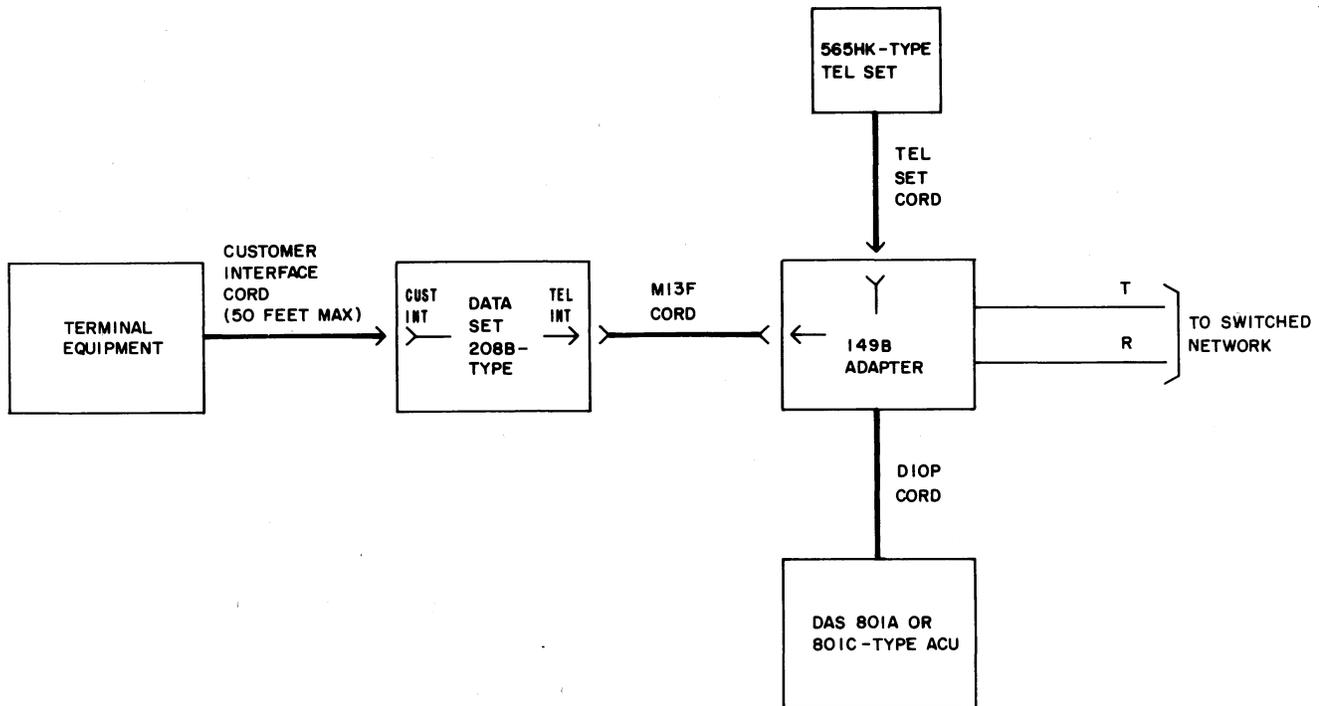
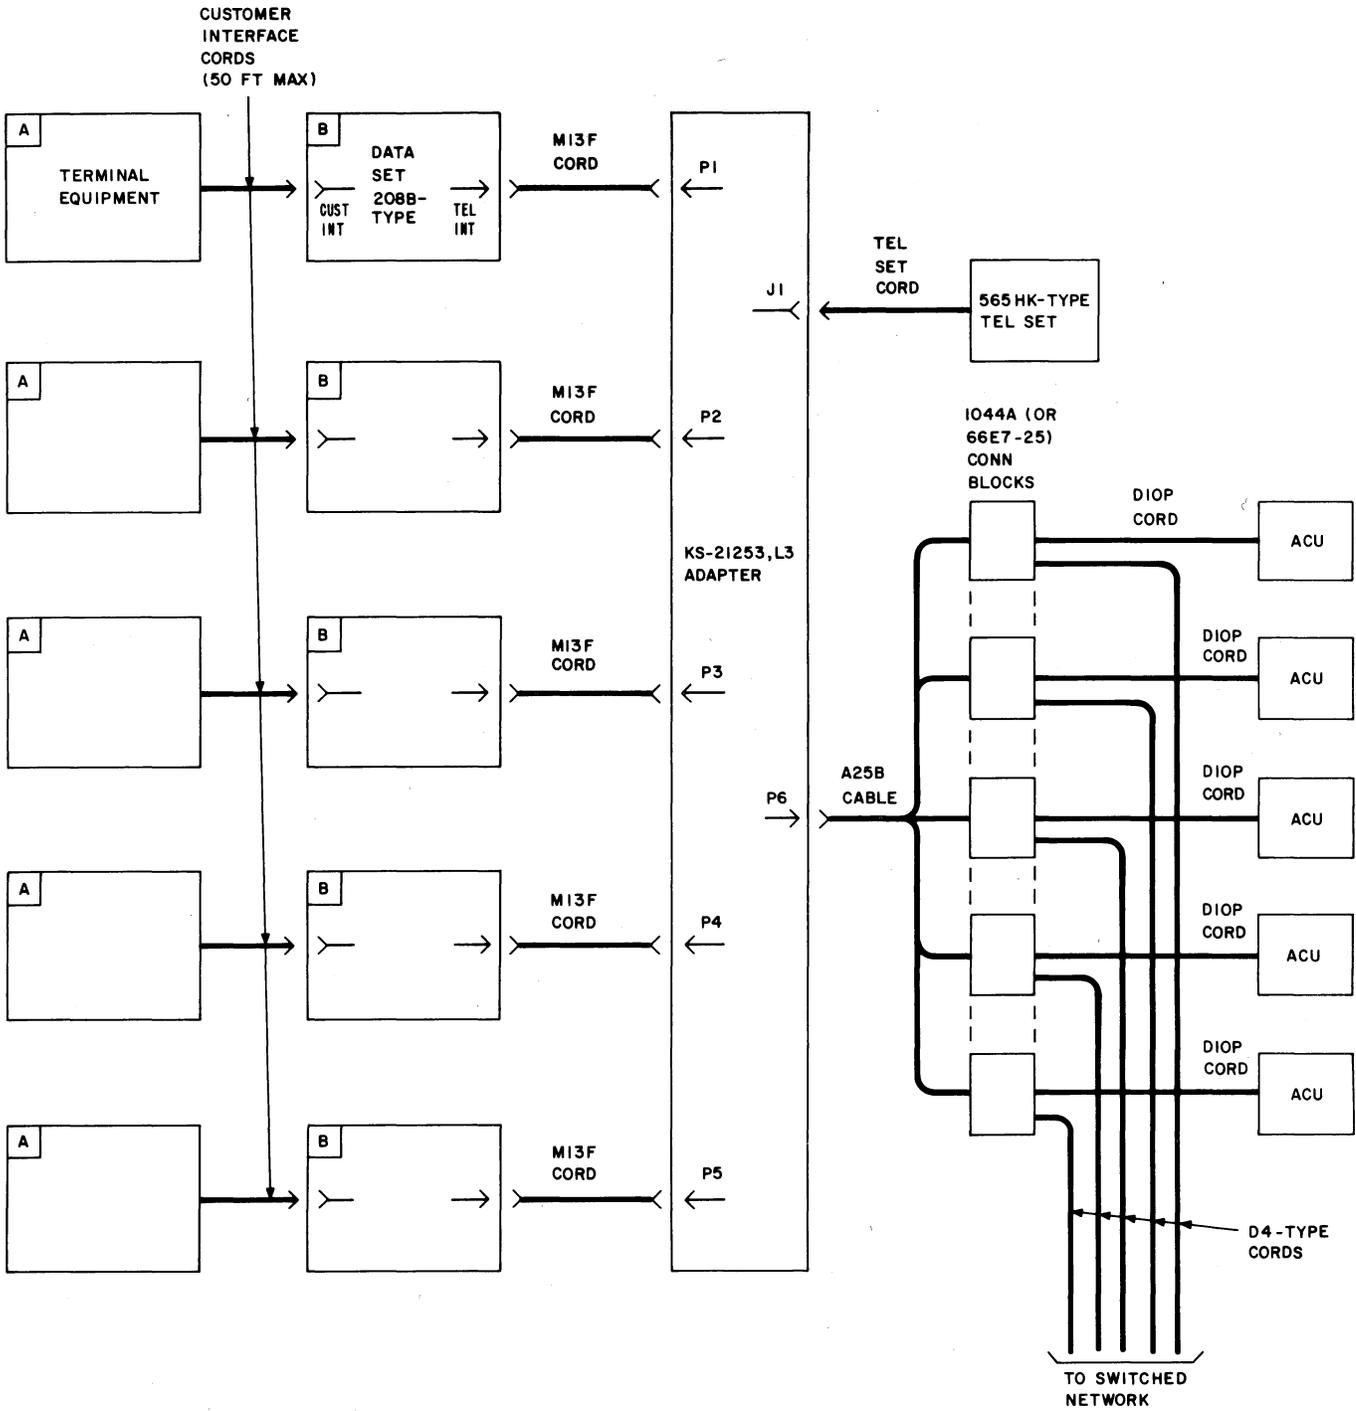

Fig. 16—Typical Single Data Set 208B-Type Arrangement With ACU—Block Diagram
Fig. 18—Typical Multiple Data Set 208B-Type Arrangement Using P6 of KS-21253-L3 Adapter for ACU Access—Block Diagram
**4.03** Whenever automatic call origination is desired, the DAS 801A- or 801C-type automatic calling unit (ACU) must be provided (Fig. 16, 18, and 19). The ACU must be ordered separately; however, the D10P cord required for the data set/ACU interface is supplied with the ACU. For simplicity's sake, the customer interface to the ACU is not shown on the block diagrams (Fig. 16, 18, and 19). For details of the terminal equipment/ACU interface, refer to the appropriate ACU BSP.
**4.05** A typical single DS 208B-type arrangement with an ACU is shown in Fig. 16. The DAS 801A- or 801C-type ACUs and 149B adapters (Fig. 8) must be ordered separately. However, in this case, the distance between the data set and the telephone set is limited by the length of the telephone set cord, M13F cord, and D10P cord. This is due to the 50-foot maximum length requirement of the data set and ACU customer interface cords.
**4.08** Two typical multiple DS 208B-type arrangements with ACUs are shown in Fig. 18 and 19. As for the single data set arrangement with ACU (Fig. 16), the distance between the data set and the telephone set shown in Fig. 18 and 19 is limited by the length of the telephone set cords, M13F cords, and D10P cord. As before, this is due to
**Note:** The combination shown in Fig. 18 is the recommended method of ACU access for multiple data set arrangements.